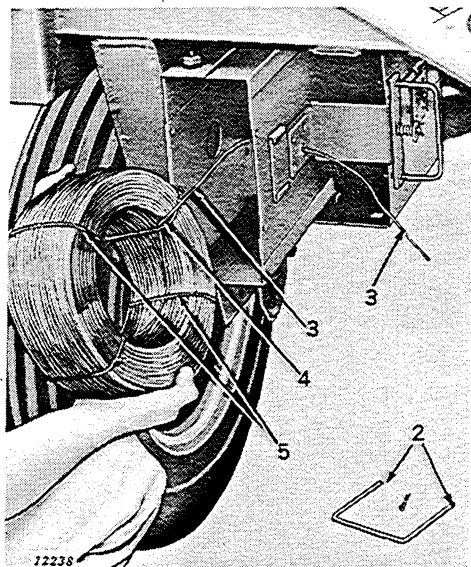

Figure 17
2. (Figure 17) Remove wire box pin.
3. (Figure 17) Find the loose end from the center of the coil and pull out about one foot of wire, threading it through the large hole in the wire box and retaining clip.
4. (Figure 17) Hold coil in position and cut first banding wire. Insert coil into box about one third of the way.
5. (Figure 17) Cut top and bottom banding wires and insert coil over halfway. Pull gently on loose end, making sure wire is not kinked.